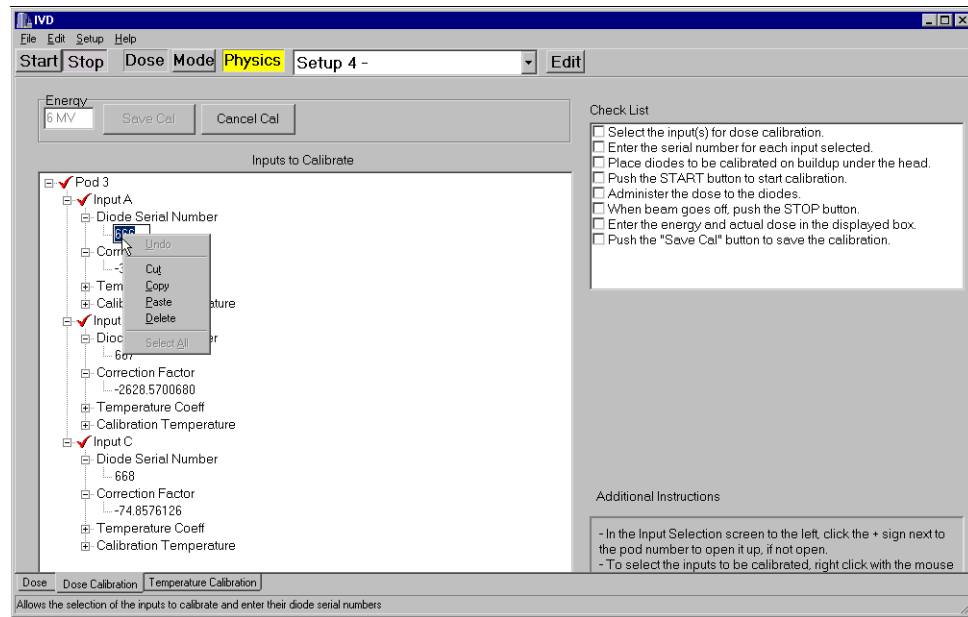

Figure 4-21. Context menu
- 3 Right-click to open the context menu (Figure 4-21) and select Copy.